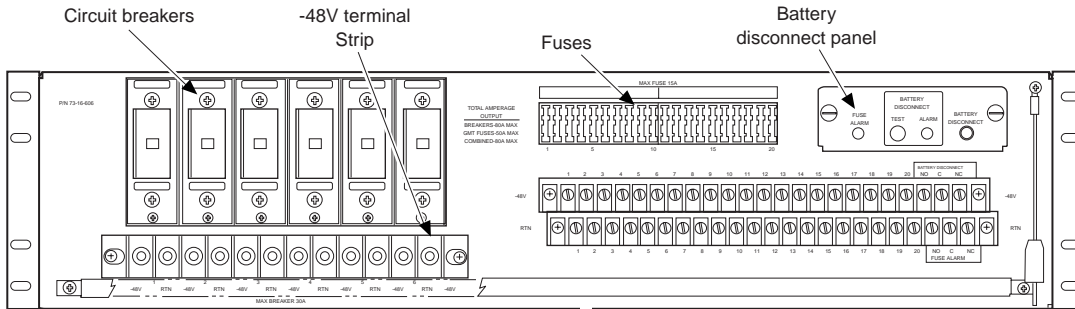

Figure 30. Distribution Panel Controls and Indicators
- At the DC distribution panel, operate the battery disconnect (by inserting the pin provided at the right-hand side into the BATTERY DISCONNECT jack shown in Figure 30 on page 36), or:
- At the DC distribution panel, ensure that the battery disconnect is operated (the pin provided at the right-hand side is inserted into the BATTERY DISCONNECT jack as shown in Figure 30 on page 36, or